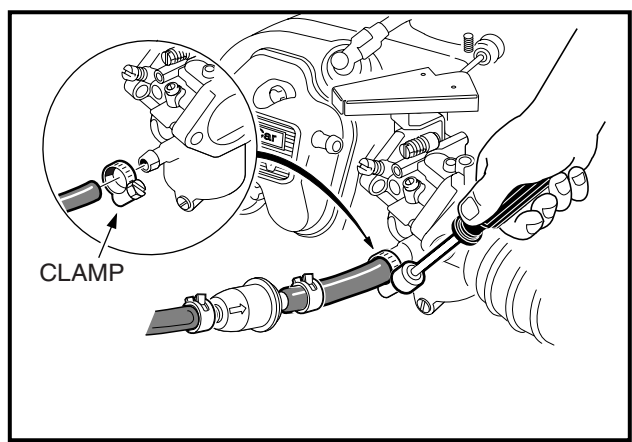

Figure 16-55 Connect Fuel Line
29. Pull fuel line from impulse line fitting of the fuel pump and connect it to the carburetor and secure with a hose clamp **(Figure 16-55, Page 16-21)**.